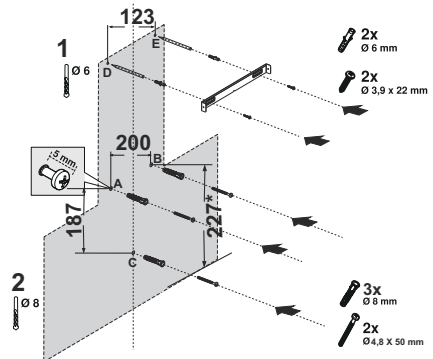

Fig. 12
**1.** → Draw a mid location line from the ceiling perpendicular to the lower edge of the hood (Fig. 12).
**2.** → There is a tab in the middle of the flue connection plate. Place the middle point of this tab on the line that is drawn perpendicular to the wall. Align horizontally and mark the holes where the connection plate will be mounted via a pen (Fig. 12/1).
Drill the marked points with Ø6mm drill and insert 2xØ6mm plastic dowels in the drilled holes (Fig. 12/1).
Fix the flue connection plate to the wall with 3,9x22 screws (Fig. 12/1).
**3.** → To drill the suspension holes of the flue, place the mounting template on the surface where the appliance will be mounted on and mark the mounting holes (Fig. 12/b).
**4.** → Drill the suspension holes with Ø8mm drill and place the dowels (Fig. 12/2).
Place 2x48,50 suspension screw with a clearance of 5 mm between the screw head and the wall (Fig. 12/2).